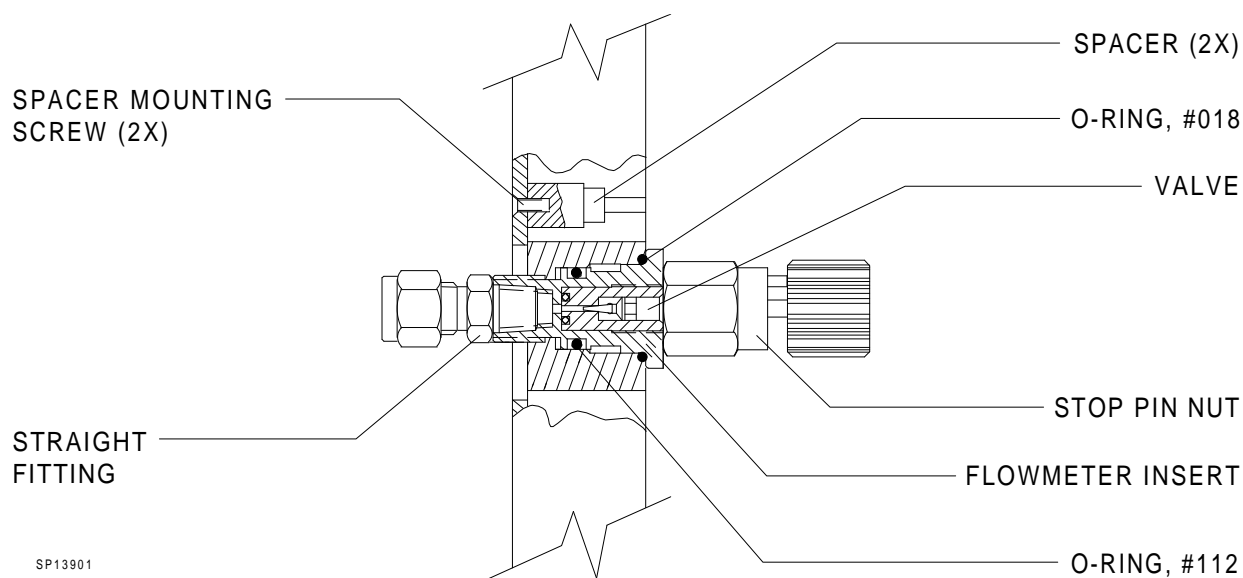

Figure 1: FLOW CONTROL INSERT AND VALVE INSTALLATION
15. Assemble the air flowmeter insert, O-rings and valve as shown in Figure 1. Thread the flowmeter insert into the bottom flowmeter block.
17. Attach the two spacers (P/N 4111947) to the flowmeter channel with 6-32 x $\frac{3}{8}$ in. flat head screws as shown in Figure 1.